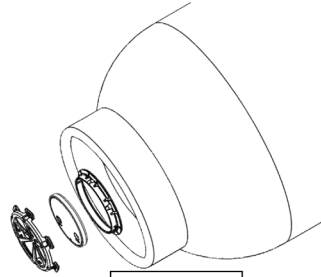

FIGURE 5
3.3 **See Fig 5 and 6**. Before removing protective paper on adhesive, place the collar in the center of the tank bottom and mark the position for easier installation.